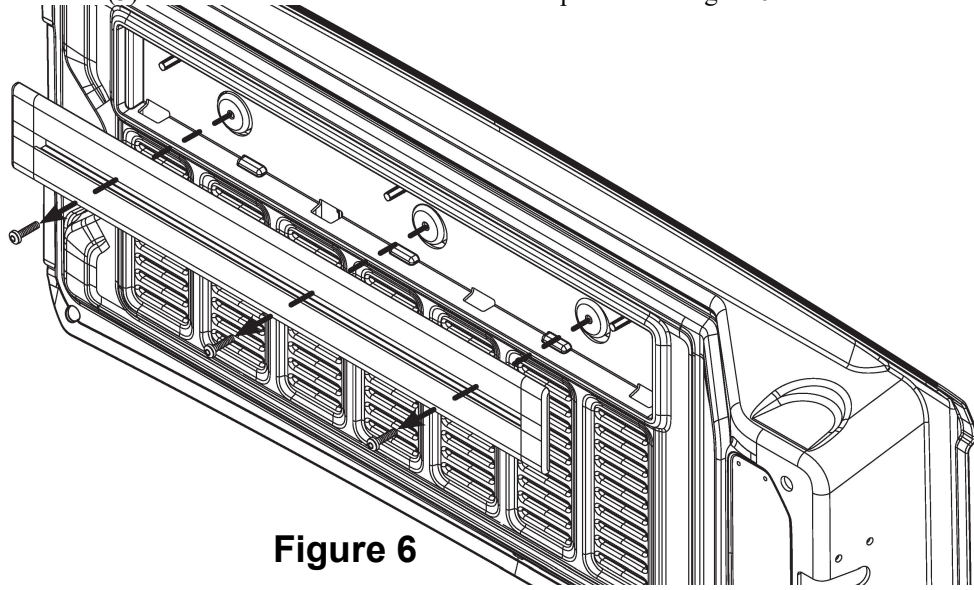

**Figure 5**
8. Install the removable shelves (#8 and #9) using the (6) #11.8 Machine Screws. See Figure 5